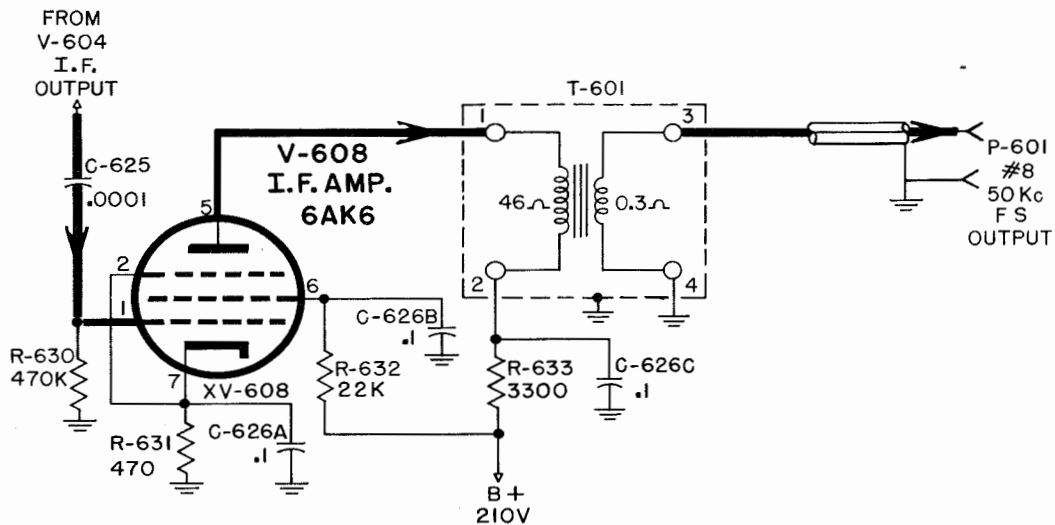

Figure 2-25. 50-kc. F.S. I.F. Amplifier Stage V-608, Simplified Schematic Diagram
(2) 50 KC. F.S. I.F. AMPLIFIER CIRCUIT, V-608 (AM-454/FRR-24). (See Figure 2-25).—The output of the cathode follower V-604 is capacitively coupled through capacitor C-625 to the grid of the I.F. amplifier V-608. The amount of input to this I.F. stage is manually controlled by the panel-mounted FSK Diversity Level control R-616. The gain of this stage is 20 db. Cathode bias is developed across resistor R-631 bypassed by capacitor C-626A. Screen voltage is applied through resistor R-632 bypassed by capacitor C-626B. Plate voltage is applied through resistor R-633 and the primary winding of transformer